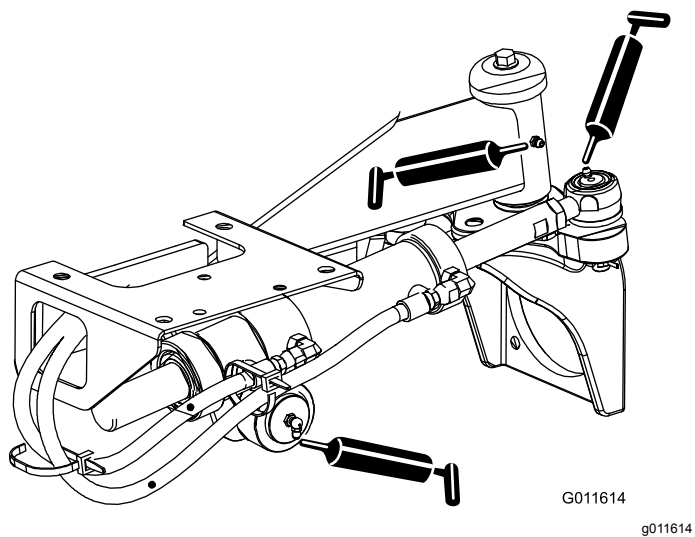

Figure 52
- Steering-cylinder ball joints (2) and rear axle (1)—Figure 52